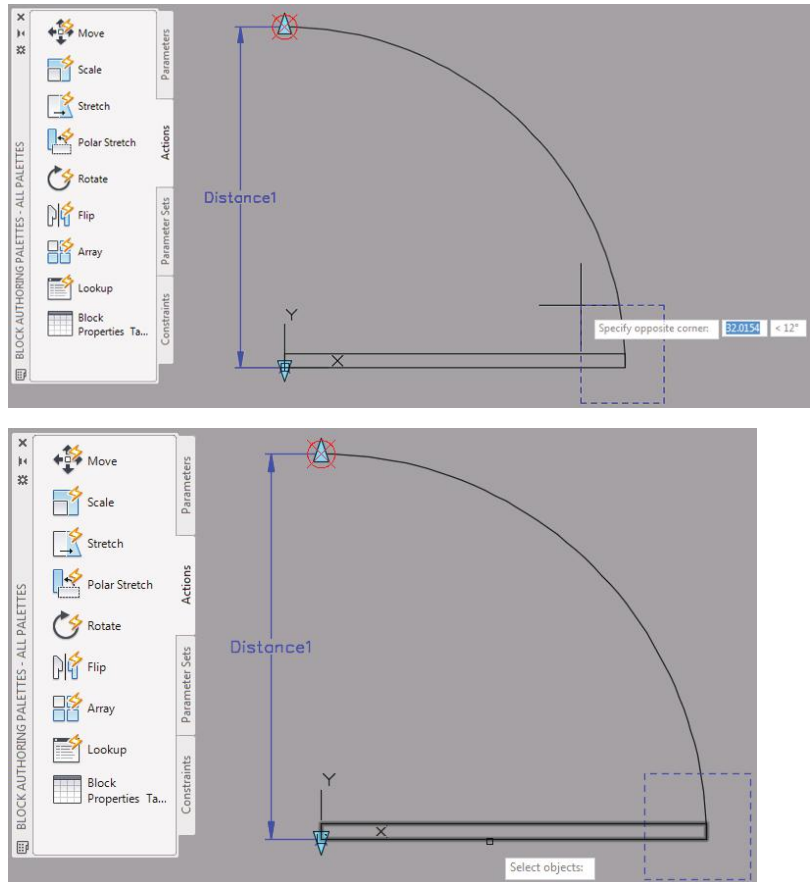

FIGURE 9.45: Defining the stretch frame (top) and selecting the door objects (bottom)
- At the Specify opposite corner of stretch frame or [CPolygon]: prompt (see the top of Figure 9.45), form a crossing polygon around the right half of the door, clicking each of the opposing corners rather than clicking and dragging, as shown at the bottom of Figure 9.45.